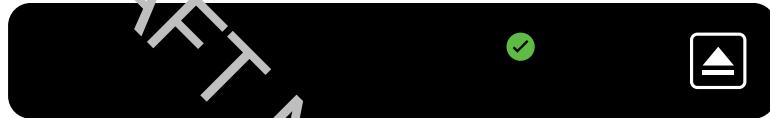

Figure 47 – Secondary Control Panel Display — Wash Cycle Complete
5. When the wash cycle is complete, press the Release button to disengage the rover from the docker (Figure 47).